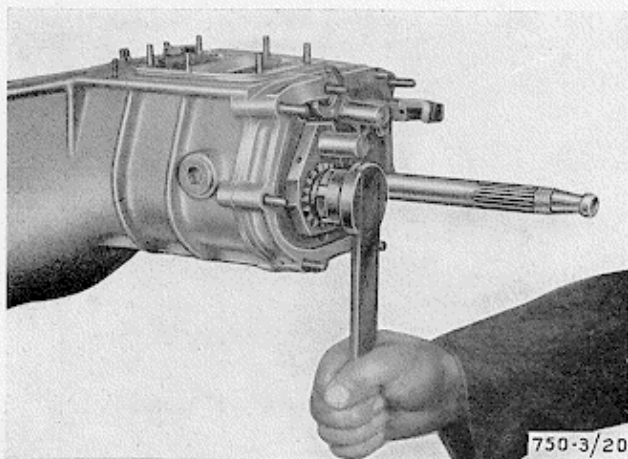

Fig. 20 - Removal of the rear ring-nut from the secondary shaft; use wrench 6121.20.024 while preventing the shaft from turning with tool 6121.01.181
- 9) Block the reverse driving pinion with tool 6121.01.181 and unscrew the two end screw-rings (front and rear) from the secondary shaft, using the wrench 6121.00.038 (front screw-rings) or 6121.20.024 (rear screw-ring: fig. 20); then remove the reverse driving pinion.